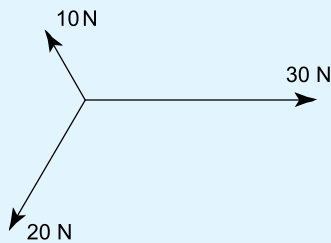
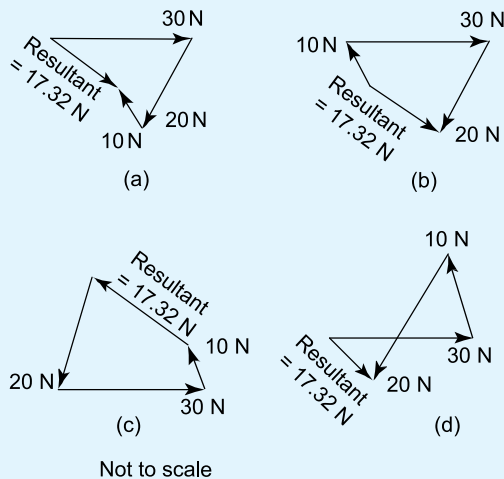

Figure 5.32
Figure 5.33
11. A space diagram of a force system is shown in Figure 5.32. Which of the vector diagrams in Figure 5.33 does not represent this force system?